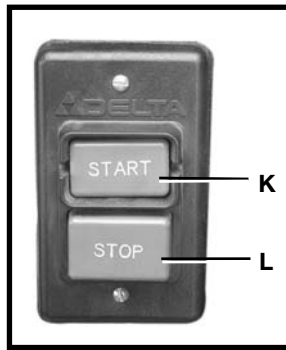

Fig. 17
To start the tool, press the "START" button (K) Fig. 17. To stop the tool, press the "STOP" button (L) Fig. 17.